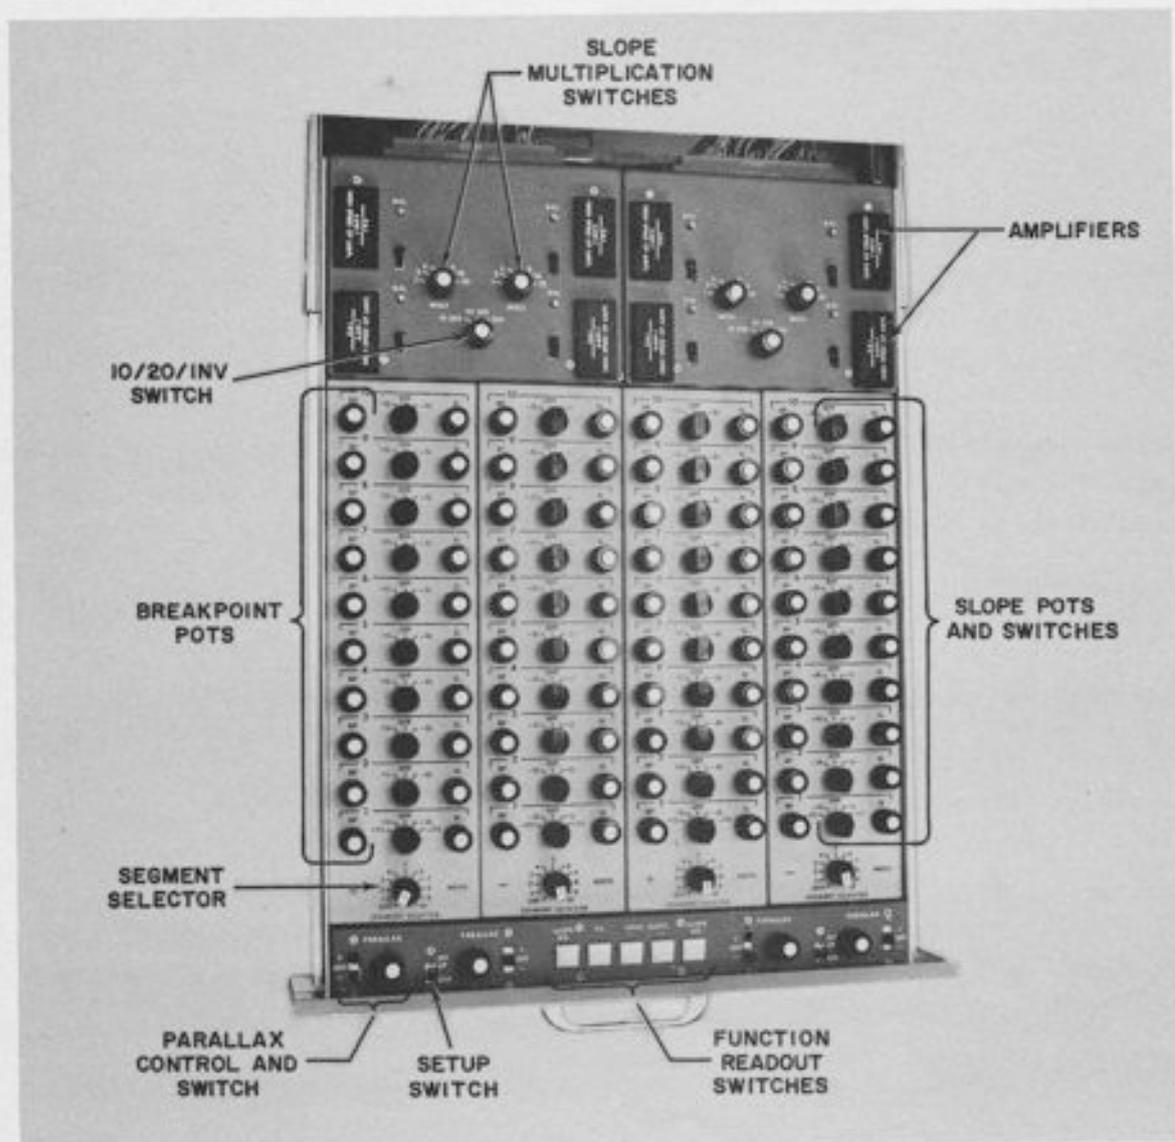

Figure 10.5. Typical DFG Drawer (Except for Upper Drawer)
10.3.3.3 *Selecting the DFG.* Address the DFG to be set on the signal selector. Its output should be near zero, since the computer is in the PC mode. Now open the drawer containing the DFG (Figure 10.5), and turn on the SETUP switch near the front of the drawer. There is one switch for each pair of ten-segment DFG's. When the SETUP switch for any DFG is turned on, the "F" button on the signal selector keyboard will light up. This button is also lit whenever the AMPL BAL switch is in the ON position. Hence, after setting up DFG's or balancing DFG amplifiers, the operator has a visual warning reminding him to turn off the setup panel before proceeding with computation.